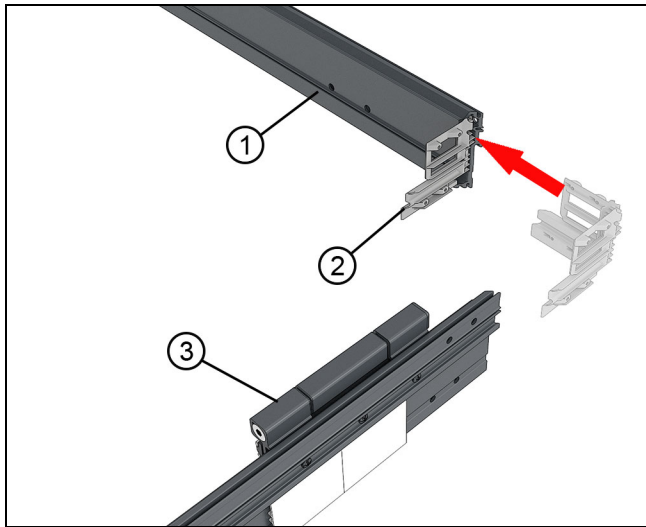

Figure 13 Insert head jamb corner key
2. Insert the head jamb/jamb corner keys into the ends of the head jamb frame. See Figure 13.